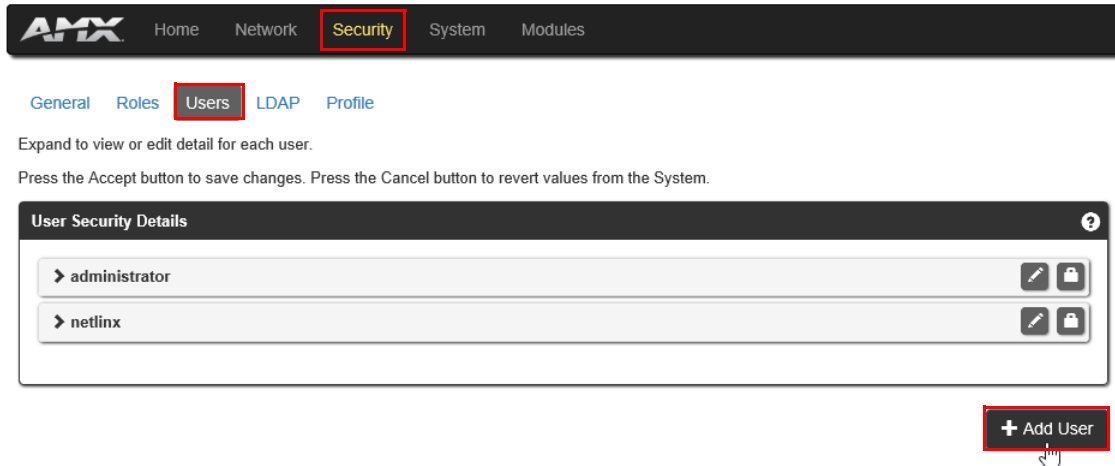

FIG. 94 NX Master WebConsole - Security > Users > Add User
1. In the WebConsole, select **Security** from the main menu bar, and select **Users** on the *Security* page to access the *User Security Details* page (FIG. 94):